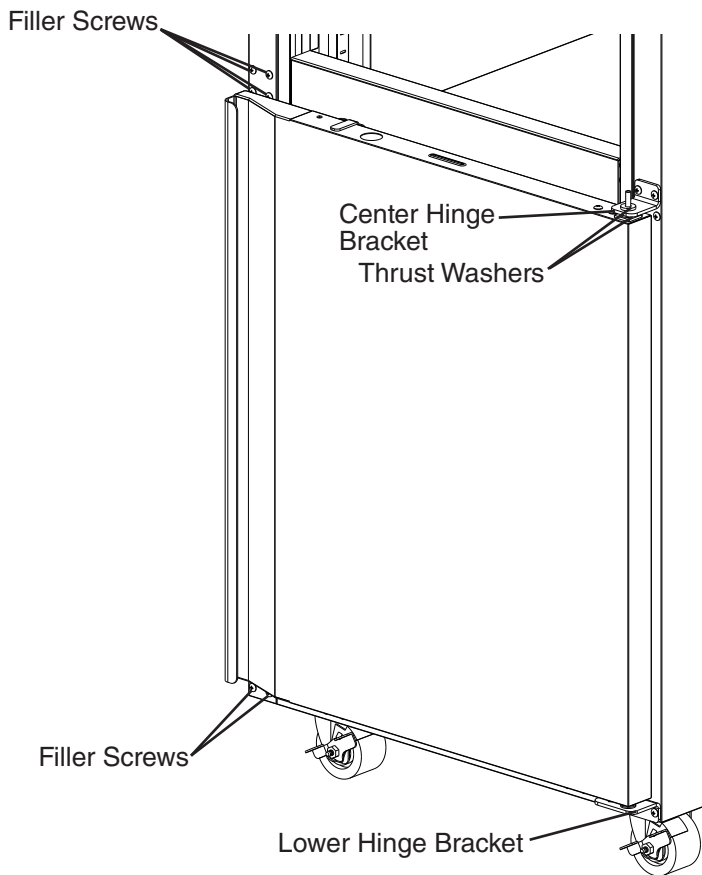

Fig. 29
- 6) While maintaining a hold on the lower door, remove the lower hinge bracket from the cabinet, then lower the door off the center hinge bracket and set aside. See Fig. 29. Retain the center hinge thrust washers for opposite side installation.